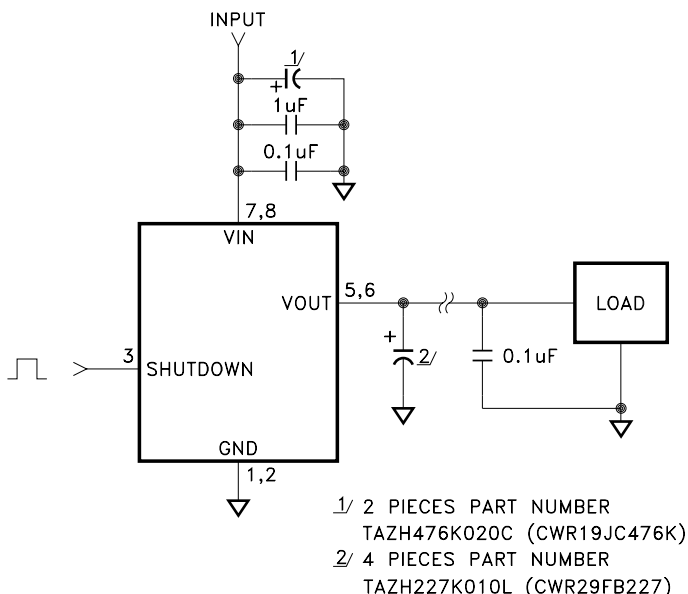

FIGURE 2
- ① Unless otherwise specified, VIN = 5.0V, VSHUTDOWN = 0V and IOUT = 50mA. See figure 2 for typical test circuit.
- ② Guaranteed by design but not tested. Typical parameters are representative of actual device performance but are for reference only.
- ③ Industrial grade devices shall be tested to subgroups 1 and 4 unless otherwise requested.
- ④ Military grade devices ("H" and "K" suffix) shall be 100% tested to subgroups 1,2,3 and 4.
- ⑤ Dropout limited by minimum value of VIN.
- ⑥ Subgroup 1, 4 TC = +25°C